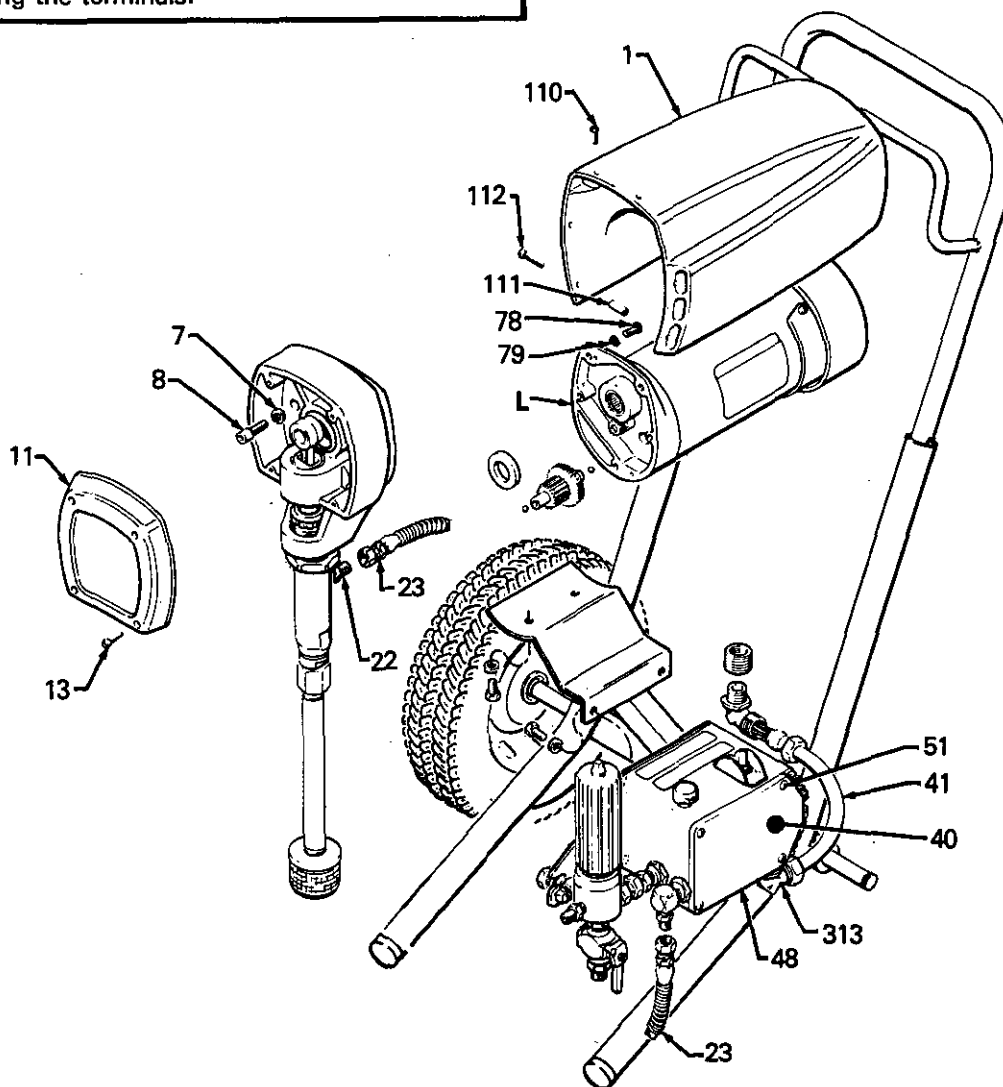

Fig 31
1. Disconnect the pump outlet hose (23) from the displacement pump outlet nipple (22).
2. Remove the screws (51) and pressure control cover (48) and disconnect the four motor leads.
3. Use an adjustable wrench to loosen the conduit connector nut (313) at the pressure control assembly (40).
4. Swing the conduit (41) away from the pressure control elbow (313).
6. Loosen the connector nut (39) at the motor and pull the conduit (41) away from the motor, then pull the leads through the conduit, one at a time. See Fig 31.
7. Unscrew the elbow (39) from the motor.
10. Use a 5 mm (3/16") hex key wrench to remove the two screws (8) and washers (7) from the recess of the drive housing.
11. Remove the four short screws (110) and two long screws (112) and spacers (111) from the motor shield (1). Remove the shield.
12. Use a 4 mm (5/32") hex key wrench to remove the two screws (78) and washers (79) from the rear of the motor front end bell (L).